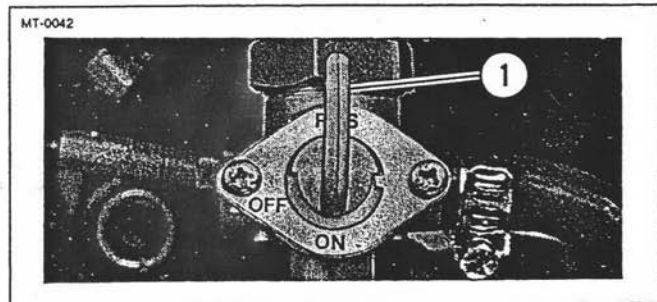

Figure 4-10. Fuel Control Valve in Reserve (RES) Position
- Step 1. Check fuel level in tank. See Figure 4-10. If fuel level is low, set fuel control lever (1) to Reserve (RES) position, then fill tank as soon as possible.